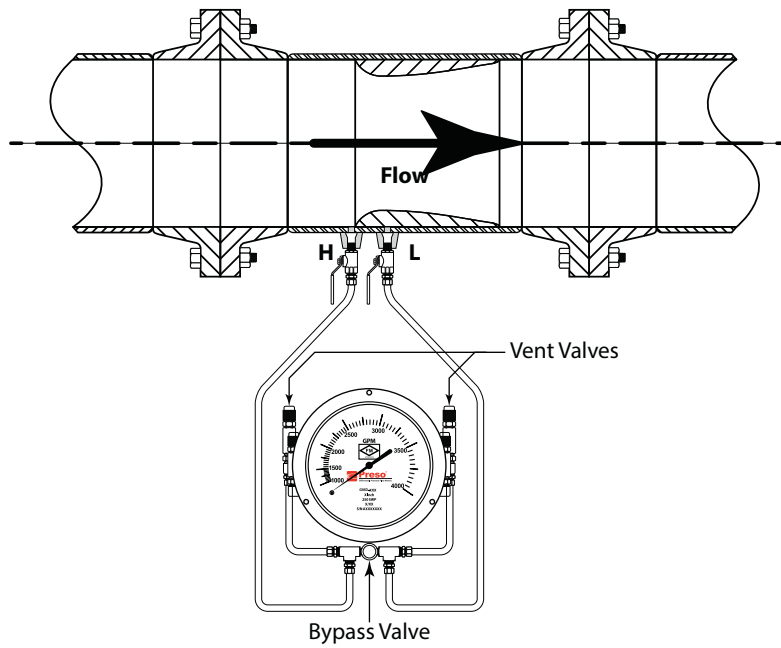

Figure 1: Recommended liquid installation
- For liquid applications the GMD should be installed below the primary element in a level position (see *Figure 1*). If recommended mounting is not possible, care must be taken to ensure that the gage is vented periodically.